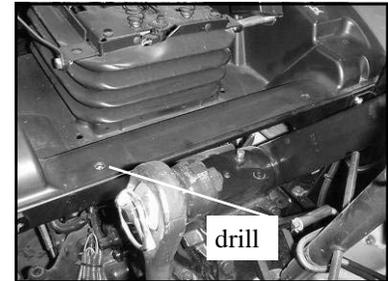
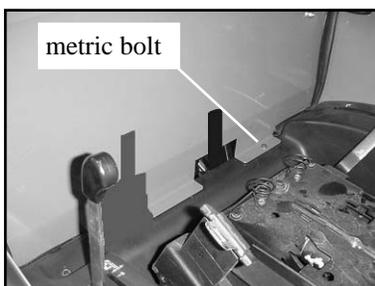

Fig. 1.5 Drill holes in plastic
Fig. 2.3.1
- 1.5 Drill an oversized hole (3/8" dia.) thru plastic located behind seat and shown in fig. 1.5. The drilled hole is to be exactly over the center of the left weld nut. Transfer the hole location from the bottom up. (Note: take precautions to avoid damaging the metric threads in the nuts welded below.) ( Suggestion: wedge plastic up in the air with a small piece of wood to keep drill bit away from weld nut threads.) This hole will be used to fasten the rear panel assembly in place (ref.: see fig. 2.3.1).
- 2.3 With assistance, and from the side of the tractor, place the pre-assembled unit behind the seat and in between the roll bar uprights (see fig. 2.3). (Make sure the rubber seal that will rest on top of the fenders is facing outwards.) Secure the bottom of the rear panel (thru the newly drilled hole) to the left metric weld nut already in place. (See fig. 2.3.1) Use a 6mm x 1.0 x 20mm long hex. head bolt and 6mm flat washer from the hardware kit.